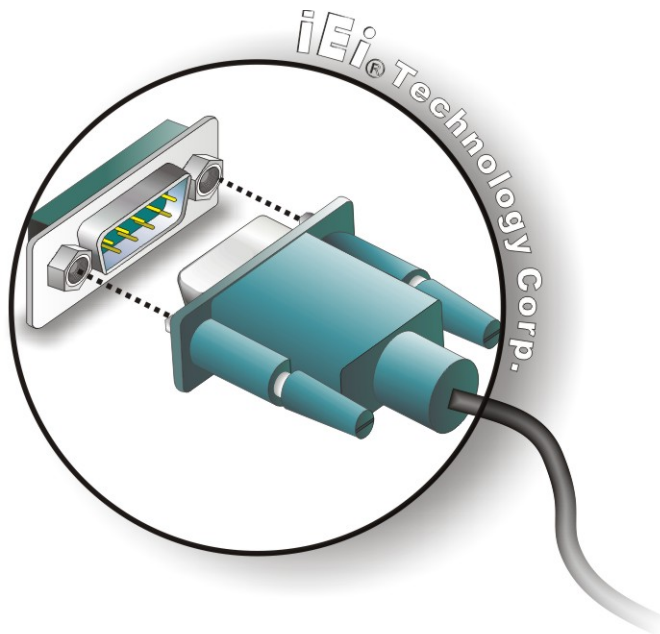

Figure 3-13: Serial Device Connector
Step 2: **Insert the serial connector.** Insert the DB-9 connector of a serial device into the DB-9 connector on the external peripheral interface. See **Figure 3-13**.